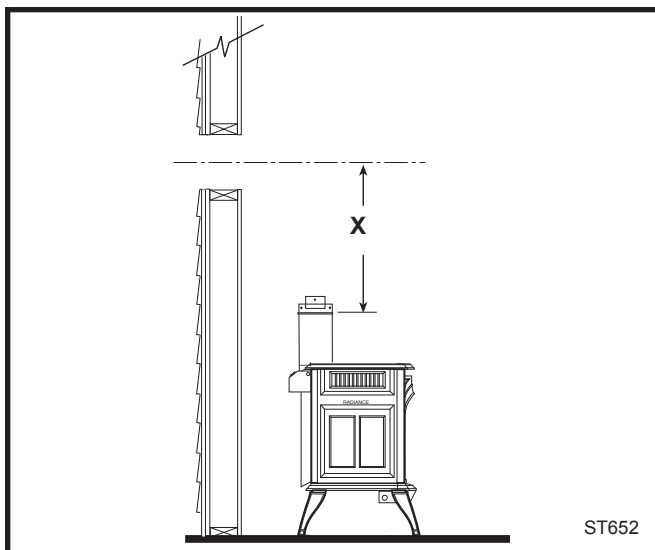

Fig. 26 Determine the vertical pipe length.
- 4. For MHSC Vent Pipe only:** If necessary, measure to determine the vertical length (X) of pipe required from the adapter pipe to the wall cutout centerline, including a 2" overlap at the joint. (Fig. 26) use a hacksaw or tin snips to trim the pipe as needed.